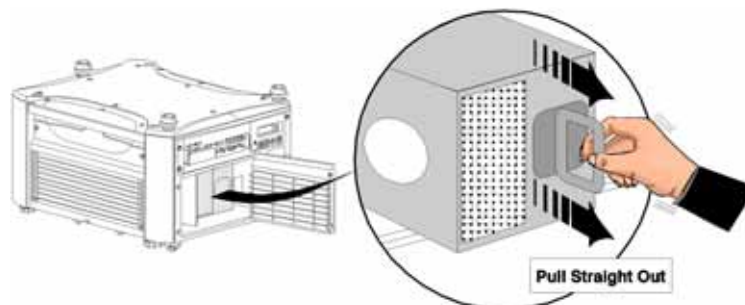

Figure 2 - Remove Lamp Module
5. To remove the lamp module, grasp the handle on the lamp module and pull straight out (Figure 2 - Remove Lamp Module2).